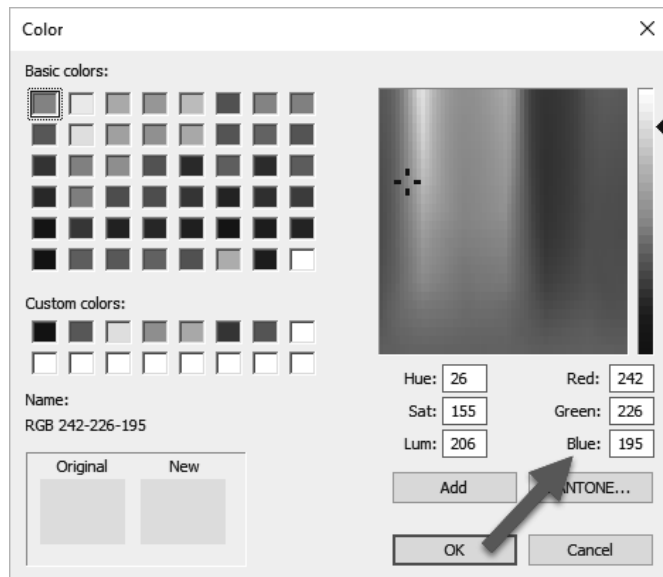

FIGURE 4-3.18 Materials dialog; Adjust appearance color
- 49. Change the RGB numbers as follows (Figure 4-3.18):